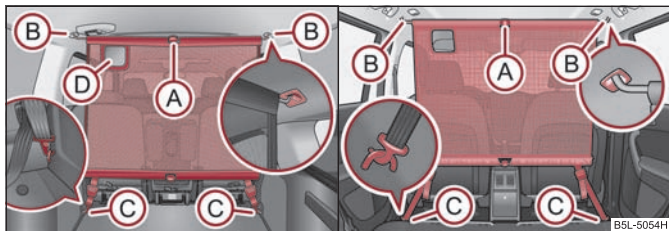

Fig. 73 Use of the separation net behind the rear seats / behind the front seats
- Insert the cross rod into the mount (B) ⇒ fig. 73 first on the one side and push the cross rod forward. In the same way, fix the cross rod to the other side of the vehicle, mount (B).
- Hang the carabines (C) at the ends of the strap into the fixing eyes behind the rear or front seats.
- Slacken the bands on both sides and take off the carabines (C) ⇒ fig. 73.
- Take the cross rod out of the mounts (B).
The opening (D) ⇒ fig. 73 in the separation net is designed to feed through the three-point seat belt ⇒ page 144. ■